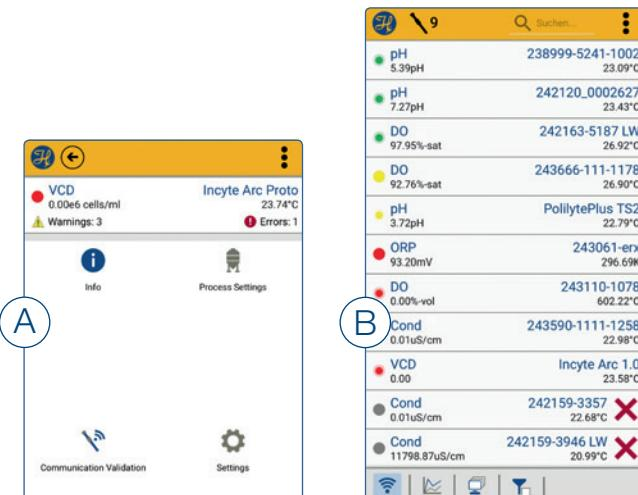

Figure 25: Sensor Quick View (B) and Status (A)
- 3) In the sensor Quick View (figure 25), the status, measurement value, measurement point, information and User space are accessible.
- 4) Control the quality of the sensor under Info «Quick View» (figure 25).